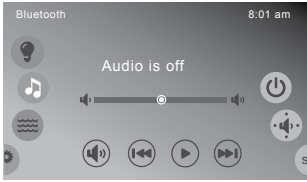

Figure 11.5a
1. From the stereo menu, Figure 11.5a, press the power button () to bring up the power on display, Figure 11.5b.